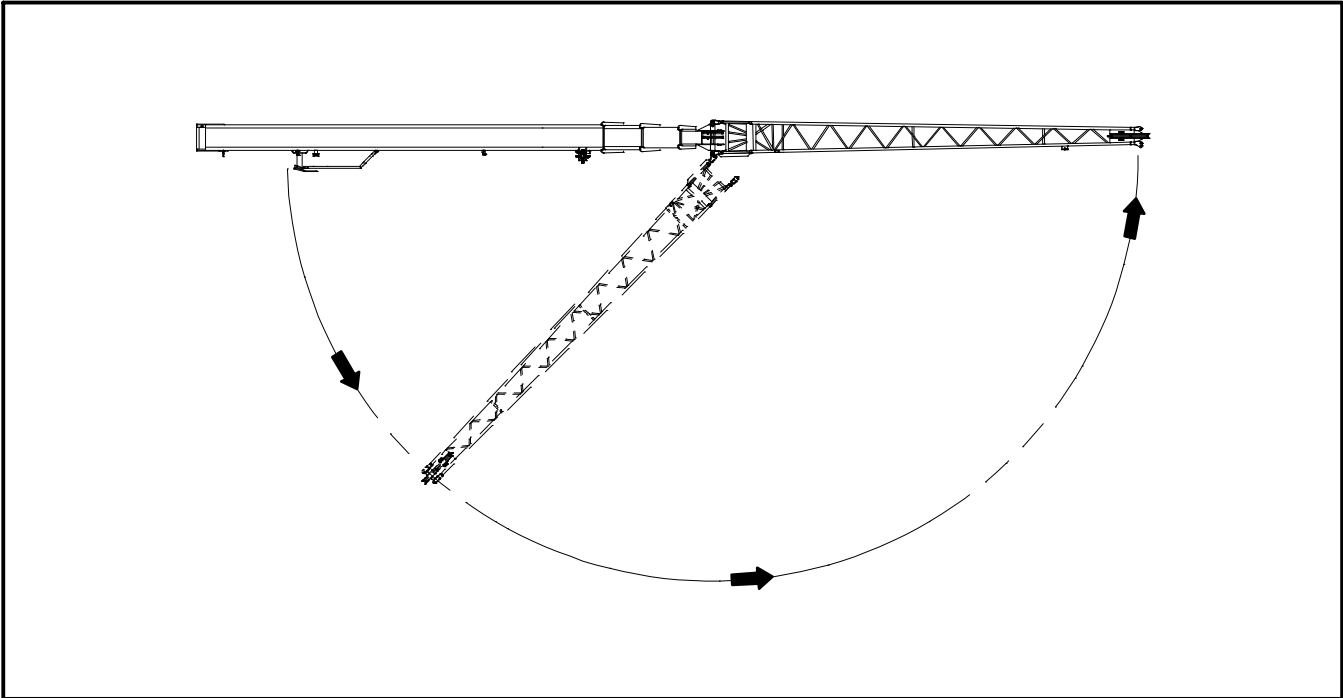

Figure 4–17
8. Remove two fly connecting pins from the storage location (1) on the rear right side on the fly. Refer to Figure 4–15. Install them through the fly pivot lugs (2) on the right side of the boom. (Install the pins with the head on top and the keeper on the bottom.) Install the pin keepers.
10. Pull down the retaining pin (1) to disengage the pin from the bullet lug on the front storage bracket. Refer to Figure 4–16. Rotate and release the retaining pin to lock it in the disengaged position (1).